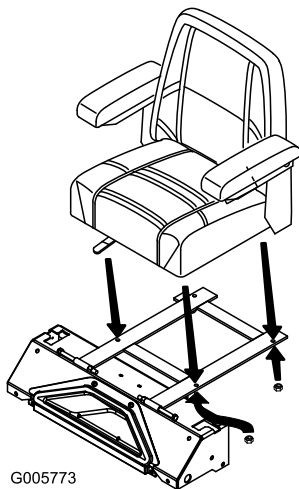

Figure 13
2. Position the seat into the holes in the seat frame (Figure 13).
3. Secure the seat with 4 flange nuts (Figure 13).